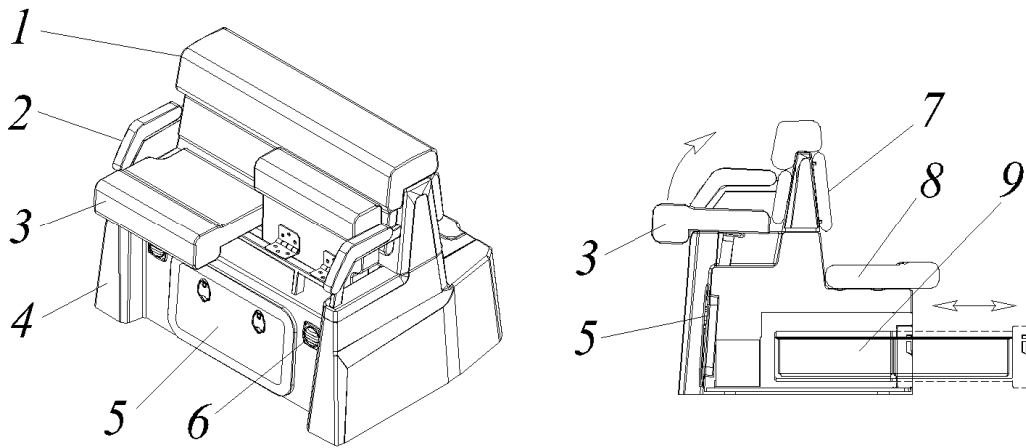

Fig.6
You can see the main components of the helm seat in Fig.6
The front seats (Fig.6 (3)) can be used in two positions: as a seat and as a bolster.